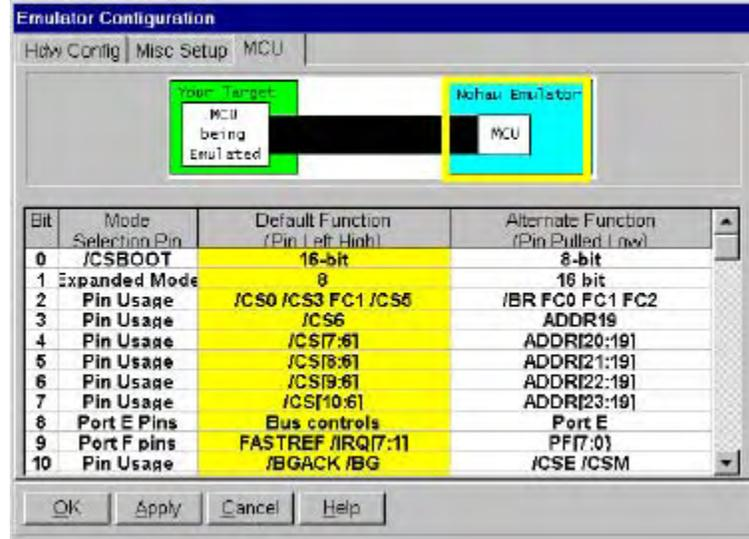

Figure 84. Emulator MCU Configuration
7. Click the **MCU** tab at the top of the dialog box (Figure 84).